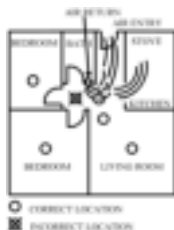

Figure 6: RECOMMENDED SMOKE DETECTOR LOCATIONS TO AVOID AIR STREAMS WITH COMBUSTION PARTICLES
- When air streams passing by kitchens, the way how a detector can sense combustion particles in normal air-flow paths is graphically shown in **Figure 6**, which indicates the correct and incorrect smoke detector locations concerning this problem.